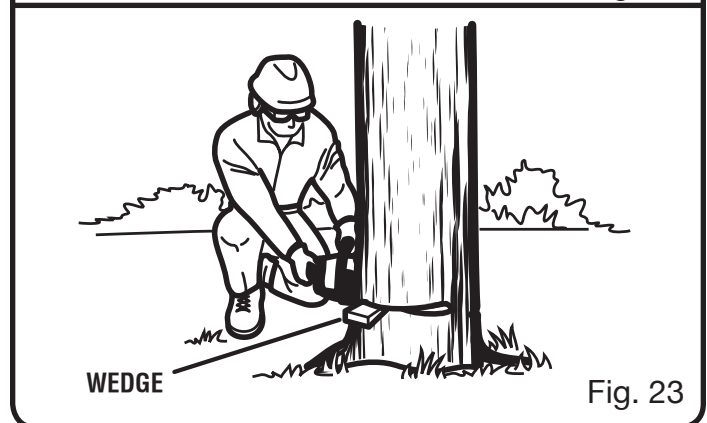

Fig. 23
Always use the proper cutting stance described in this section. Never kneel when using the chain saw, except when felling a tree as illustrated in Figure 23. Kneeling could result in loss of stability and control of the chain saw, resulting in serious personal injury.
- On large diameter trees, stop the back cut before it is deep enough for the tree to either fall or settle back on the stump. Then insert soft wooden or plastic wedges into the cut so they do not touch the chain. The wedges can be driven in, little by little, to help jack the tree over. See Figure 23.